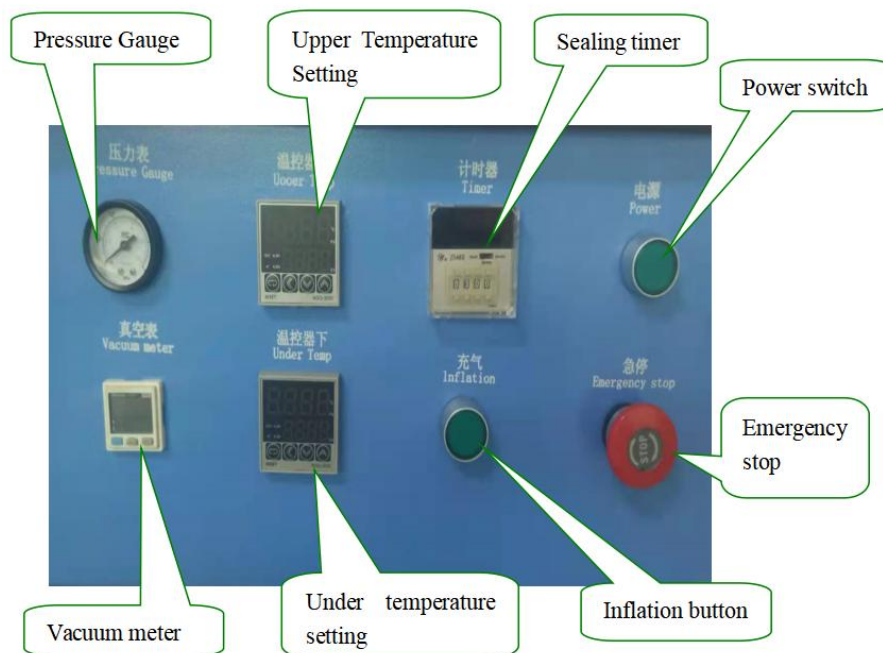

Figure 1
*Temperature setting: As shown in Figure 1, the green number displayed on the thermostat indicates the current temperature setting value. The red number indicates the current temperature detection value. Press the "up key" and "down key" keys to adjust the set temperature value.